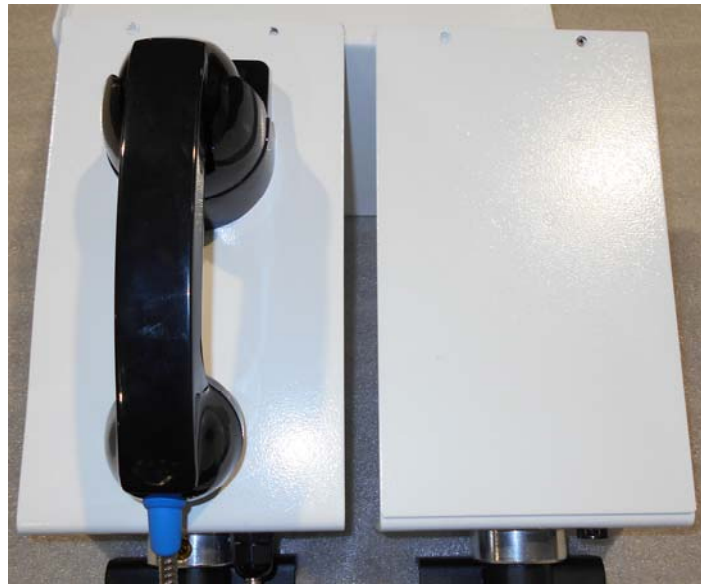

Fig. 1
1. Remove the (4) 8-32 truss head screws that secure the back cover to the assembly, and then remove the cover. (See Fig. 1)